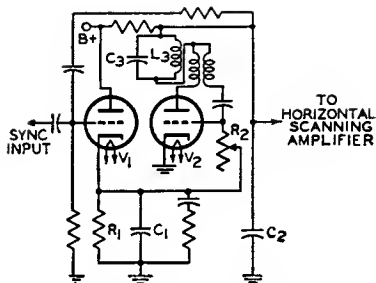
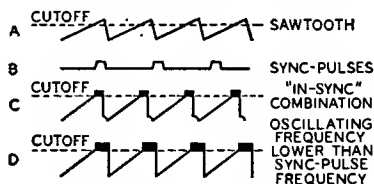
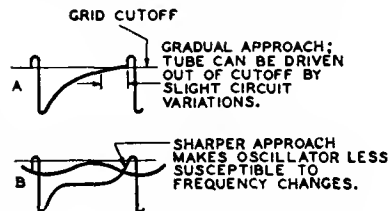

Fig. 70—Simplified synchroguide circuit.
Fig. 71—Sawtooth and sync pulses in synchroguide circuit.
Fig. 72—Waveforms showing effect of tuned circuit  $L_3C_3$  in Fig. 70.
The triode  $V_2$  in Fig. 70 is a conventional blocking oscillator which enables a sawtooth voltage to be developed across the capacitor  $C_2$ . A portion of this sawtooth is fed back to the grid of the control tube,  $V_1$ . The positive sync pulses are also applied to the grid of  $V_1$ . The waveforms shown in Fig. 71 illustrate the sawtooth and sync pulses (A and B) and their proper "in-sync" combination (C). The sync pulse occurs partly during the portion of the sawtooth voltage in which the triode  $V_1$  draws current. Any shift in sync pulse as it is superimposed on the sawtooth, therefore, will affect the amount of conduction of the control tube. A change in control-tube conduction ultimately affects the bias on the oscillator-tube grid by changing the voltage to which the capacitor  $C_1$  in the cathode circuit may charge. An increase in the positive bias increases the frequency of oscillation.
For example, waveform D in Fig. 71 illustrates a condition in which the sawtooth voltage is advanced in phase with respect to the sync pulses. The widening of the pulse which occurs at
The "synchroguide" is a controlled type of oscillator used in television receivers to generate and control the synchronized sawtooth voltage necessary for adequate line- or horizontal-frequency scanning. A simplified synchroguide circuit is shown in Fig. 70. This circuit provides stable, noise-free control of a blocking oscillator which generates a horizontal-frequency signal. It permits comparison of the received sync pulses and the generated sawtooth voltages so
The blocking oscillator can be made more immune to changes in frequency and noise if  $V_2$  is brought out of cutoff very sharply. This effect is obtained by sine-wave stabilization. The tuned circuit  $L_3C_3$  in the plate circuit of Fig. 70 superimposes a shock-excited sine wave on the plate and grid waveforms, as shown in Fig. 72.